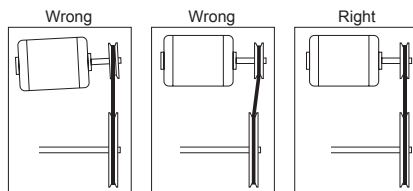

Figure 7
- Mount sheaves on shafts and secure with set screw. Check sheaves for proper alignment, see Figure 7. Misaligned sheaves lead to excessive belt wear, vibration and noise.